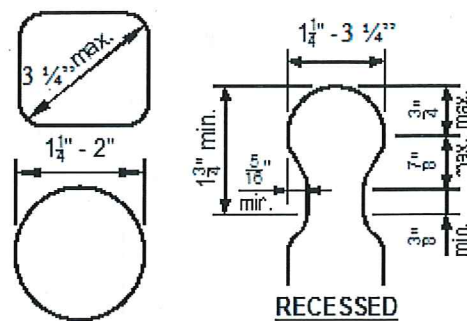

FIGURE 39: HANDRAIL GRASPABILITY
- Handrails shall have a smooth surface with no sharp corners and shall be graspable. Recessed sections may be shaped from a 2x6 or five-quarter board as shown in FIGURE 39. **(Local amendment allows 3 ¼" cross section).**